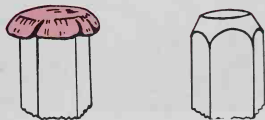

Fig. 3-1. The cold chisel at the left has a mushroom head. The one at the right is properly ground.
6. Always grind mushroom heads and burrs off chisels, punches, and other hand tools, Fig. 3-1.